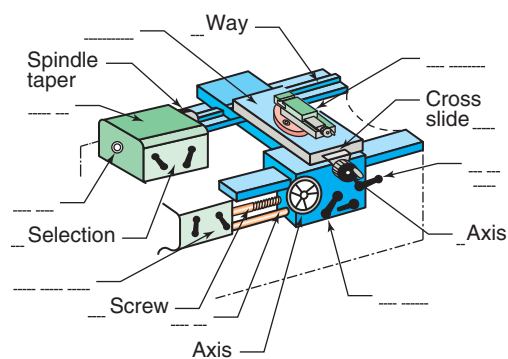

Figure 11-68 Identify the following lathe parts.
1. On a sheet of paper, identify the indicated items in Fig. 11-68. Then with permission from your instructor, with the correct safety eyewear, identify the same items on a lathe in your lab. Quiz a fellow student as to each item's purpose. Do not interfere with machinists operating the machine.